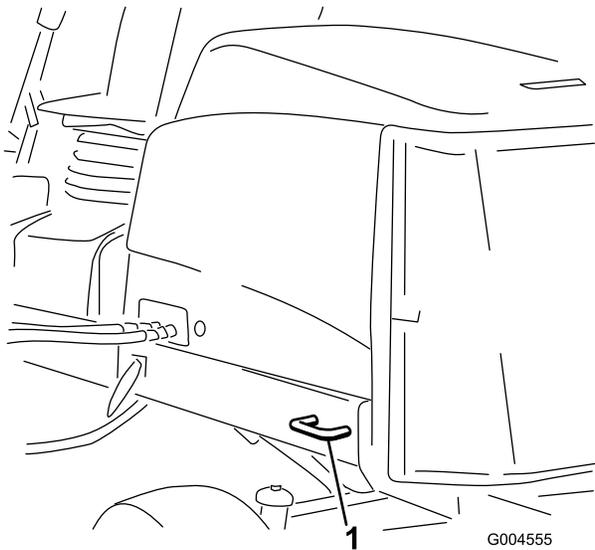

Figure 57
- **Rear of the machine**—each side of the machine on the rear frame (Figure 57).